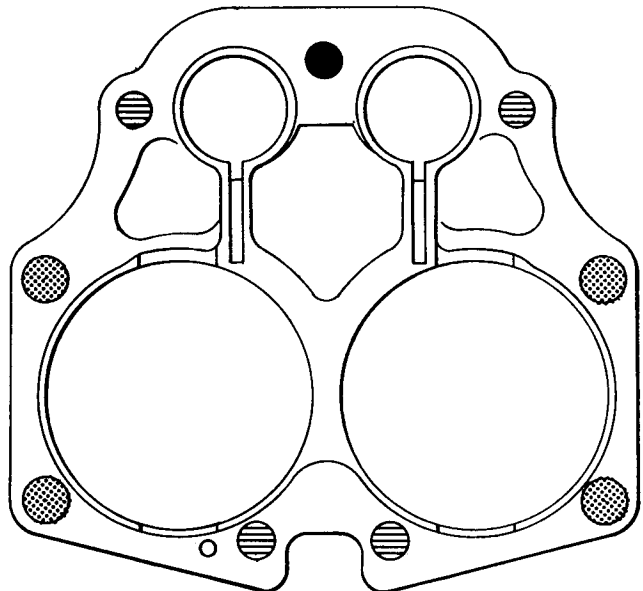

Fig. C43 850 cylinder base securing torque.
- 14 Tighten the cylinder base nuts in sequence. Tighten the $\frac{3}{8}$ in. nuts to a torque setting of 25 lbs./ft. (3.456 Kg/m) and $\frac{5}{8}$ in. nuts to 20 lbs./ft. (2.765 Kg/m). See Fig. C43 for 850 torque settings.